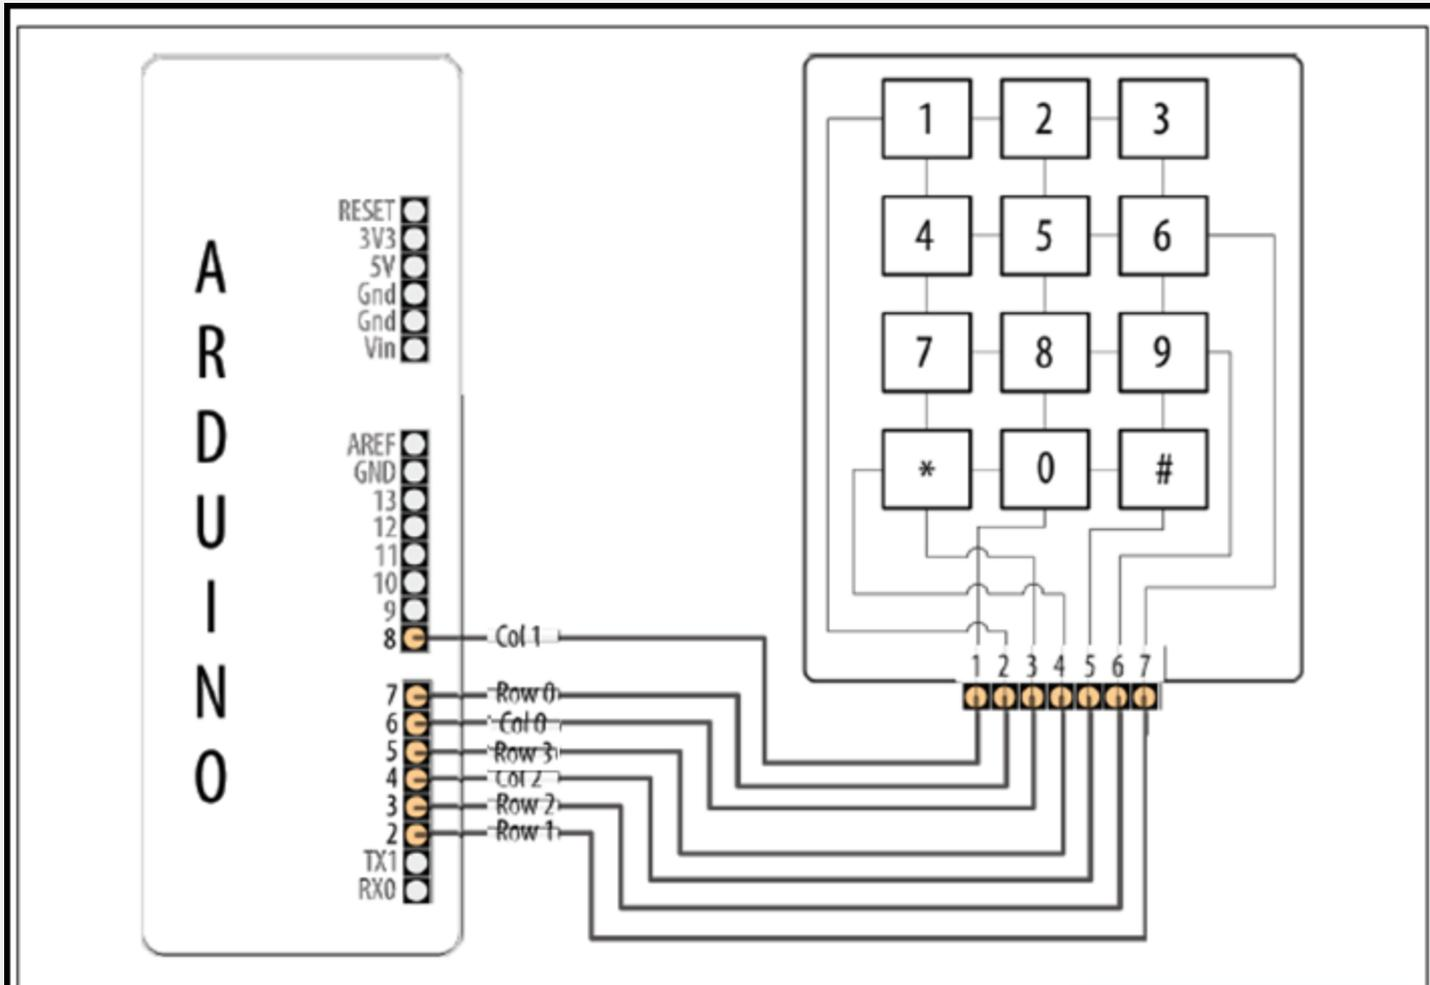

Figure 5-6. Connecting the SparkFun keyboard matrix
- Wire the rows and columns from the keypad connector to the Arduino, as shown in Figure 5-6.
If you've wired your Arduino and keypad as shown in Figure 5-6, the following sketch will print key presses to the Serial Monitor: